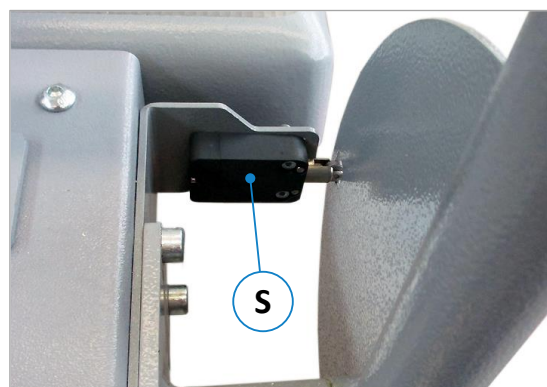

Figure 37: Emergency stop position switch
- The emergency stop situation is triggered by the emergency stop position switch (S), see ⇒ Figure 37.